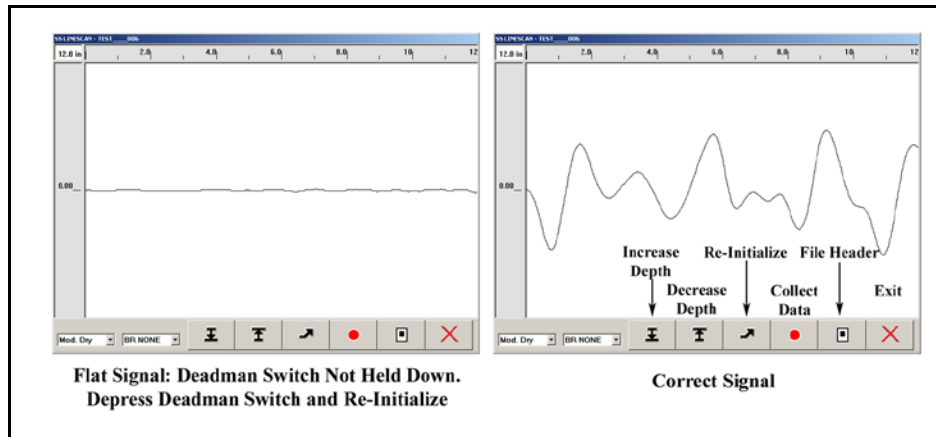

Figure 54: Incorrect and Correct Signal.
- If your scan/trace looks like the image at the left of Figure 54, you will need to reinitialize. Hold down the red deadman switch on the minicart's handle and click the re-initialize button once. After a few seconds you will see the scan line change to the image on the right. Click the Collect Data button